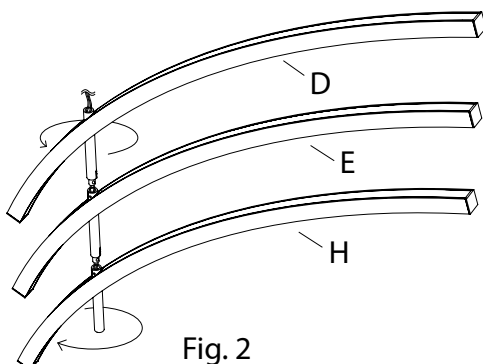

Fig. 2
3. **Important:** Handle the fixture with care and avoid placing stress on the wires during assembly to prevent damage to the fixture. Orient the fixture as pictured (Fig. 2) and rotate the top arm (D) counter clockwise until the two arrows align. Insert the top arm into the middle arm (E), secure using set screws (F) and included Allen wrench (G). (Fig. 3)